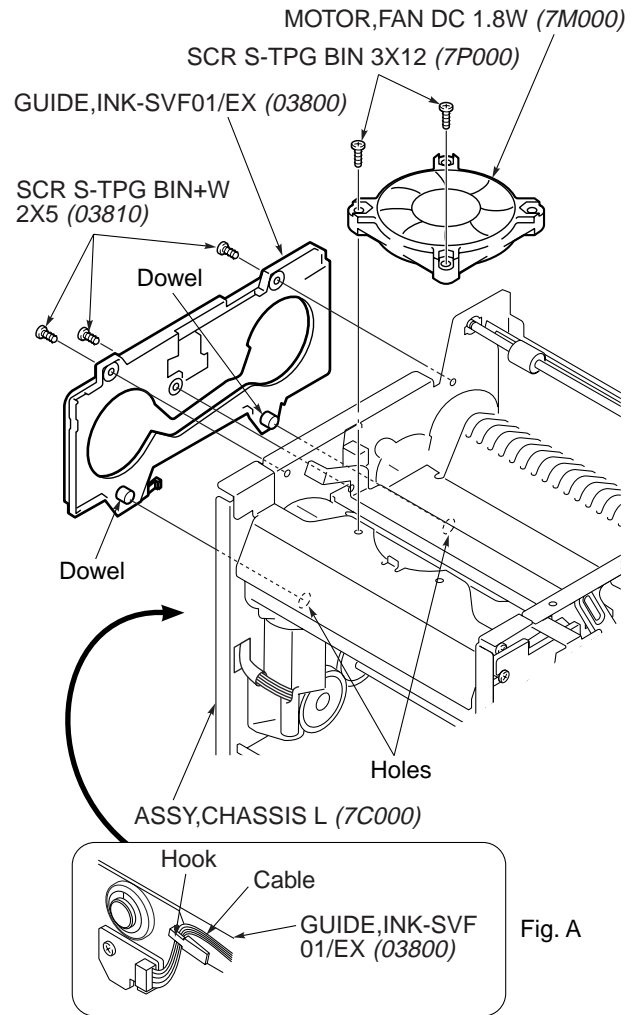

Fig. 3-1-1
3-1. “MOTOR,FAN DC 1.8W (7M000)”, “GUIDE,INK-SVF01/EX (03800)”, and “LEVER,CASSETTE STOPPER (3A000)” (See Figs. 3-1-1 to 3-1-2)
- 1) Remove the two “SCR S-TPG BIN 3X12 (7P000)” and remove the “MOTOR, FAN DC 1.8W (7M000)”. (Refer to Fig. 3-1-1.)
- 2) Remove the cables from the hook on the “GUIDE, INK-SVF01/EX (03800)” as shown in Fig. A of Fig. 3-1-1.
- 3) Remove the three “SCR S-TPG BIN+W 2X5 (03810)” and the “GUIDE,INK-SVF01/EX (03800)”. (Refer to Fig. 3-1-1.)
1. Insert the two dowels on the “GUIDE, INK-SVF01/EX (03800)” into holes on the “ASSY, CHASSIS L (7C000)”, and install the “GUIDE, INK-SVF01/EX (03800)” by sliding it upwards. (Refer to Fig. 3-1-1.)